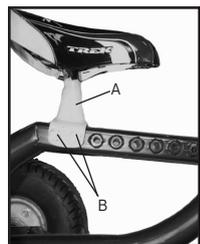

Figure 20- Tricycle seat mast
- Loosen and remove the clamp bolts (Figure 20).